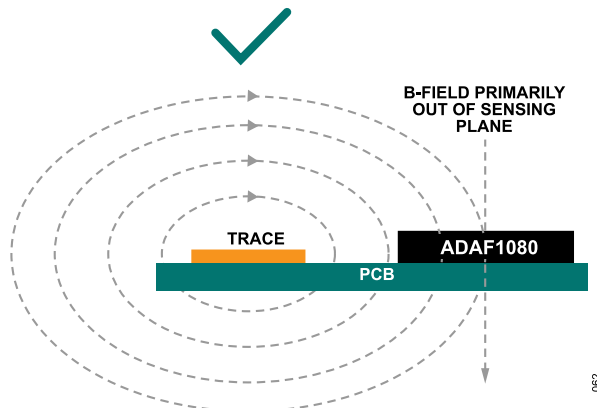

Figure 60. Current Carrying Traces on PCB Routed on the Same Layer as the ADAF1080
2. Route any current carrying traces to the ADAF1080 on the same layer as the ADAF1080. To a first order, the resultant magnetic field is perpendicular to the ADAF1080 (through the top of the package), as shown in Figure 60.